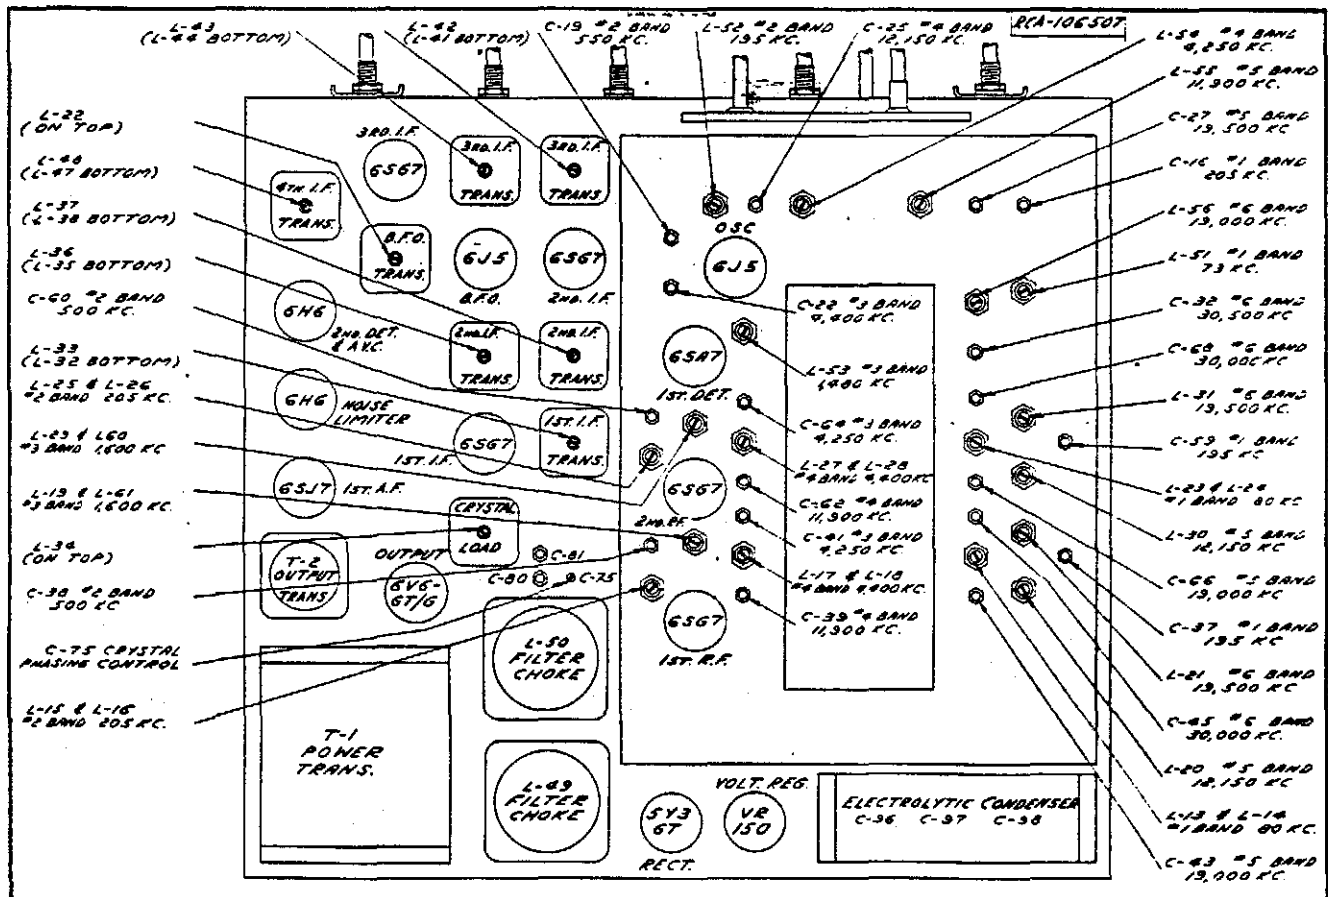

Figure 4.—General Purpose Communications Receiver—Alignment Layout.
6.4-8 Adjustment of Beat Frequency Oscillator:—Tune in a signal either R-F or I-F to exact resonance with Power-Transmit-Receive Switch at "Rec. Mod" (Fig. 1.). Turn on beat frequency oscillator by turning switch to "Rec. CW". If zero beat does not fall within the range of the BFO control, adjust BFO Trimmer L-22 (see Fig. 4) until zero beat occurs at the mid-point setting of the BFO control.